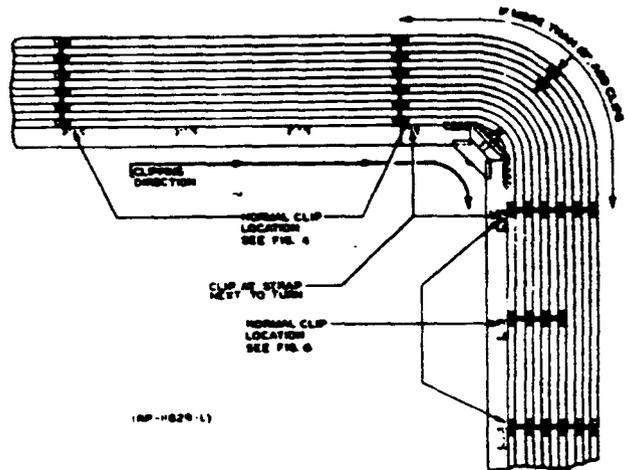

FIG. 5 CLIPS AT OUTSIDE HORIZONTAL TO VERTICAL TURNS (PARS. 3.33, 3.331)
3.33 On outside turns, from a horizontal to a vertical cable rack, place a full set of clips at the cable rack cross straps adjacent to the turn. See Figure 5.
3.331 Where the depth of the run is such that the clipping locations will become more than 18" apart, (measurement along the cables) place additional sets of clips over the cables as anchors, and continue clipping at the additional locations so the space between the clipping points will not exceed 18" as shown in Figure 5.